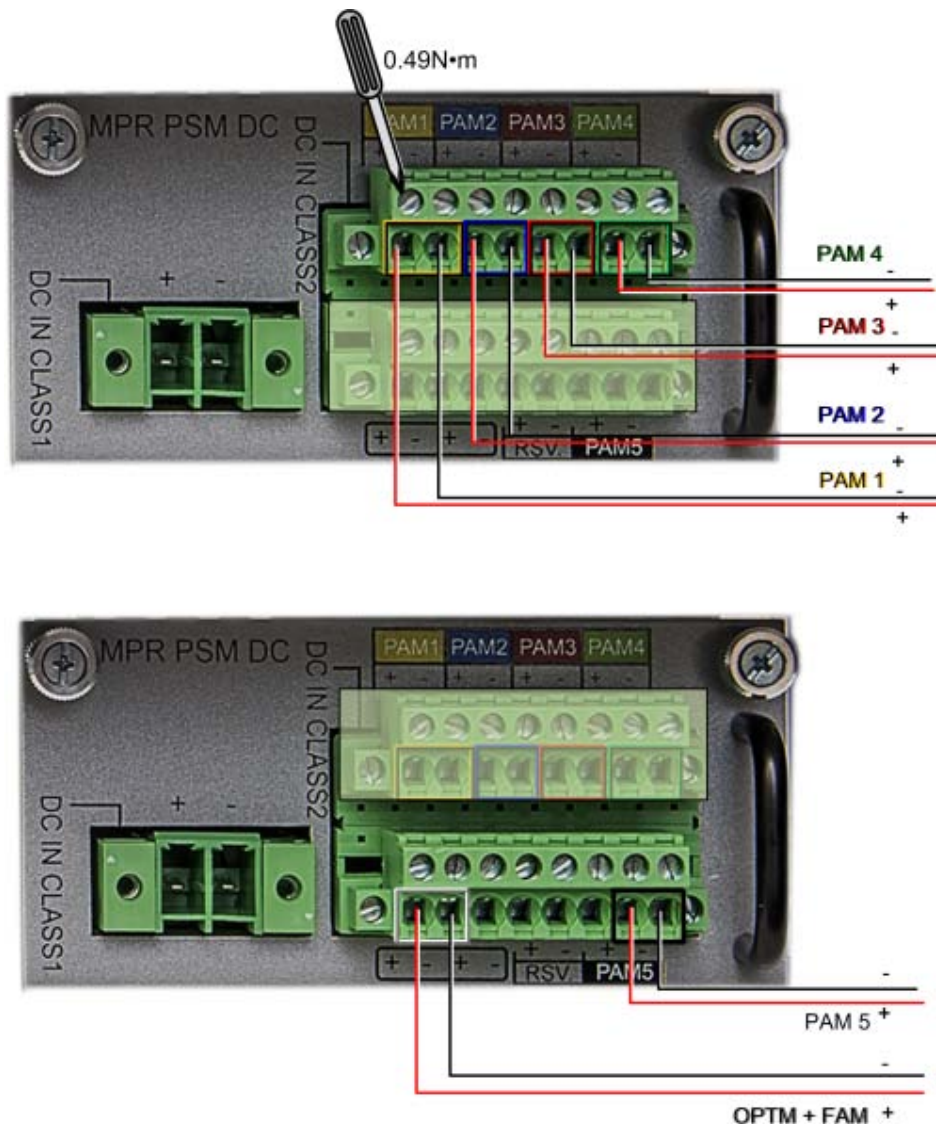

Figure 4-21. Example of CLASS2 DC Wiring Connections
- The CLASS2 DC connector supports the following wire pairs (refer to Figure 4-21):
1. Identify the positive and negative terminals for the DC pair to be wired on the CLASS2 connector feed positions. The wiring sequence is positive to positive and negative to negative as shown in Figure 4-21.